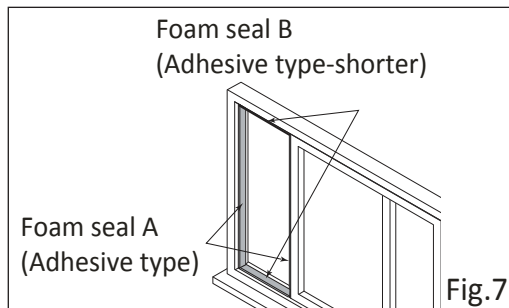

Fig.7
1. Cut the adhesive foam seal A and B strips to the proper lengths, and attach them to the window sash and frame as shown.(see Fig.7)